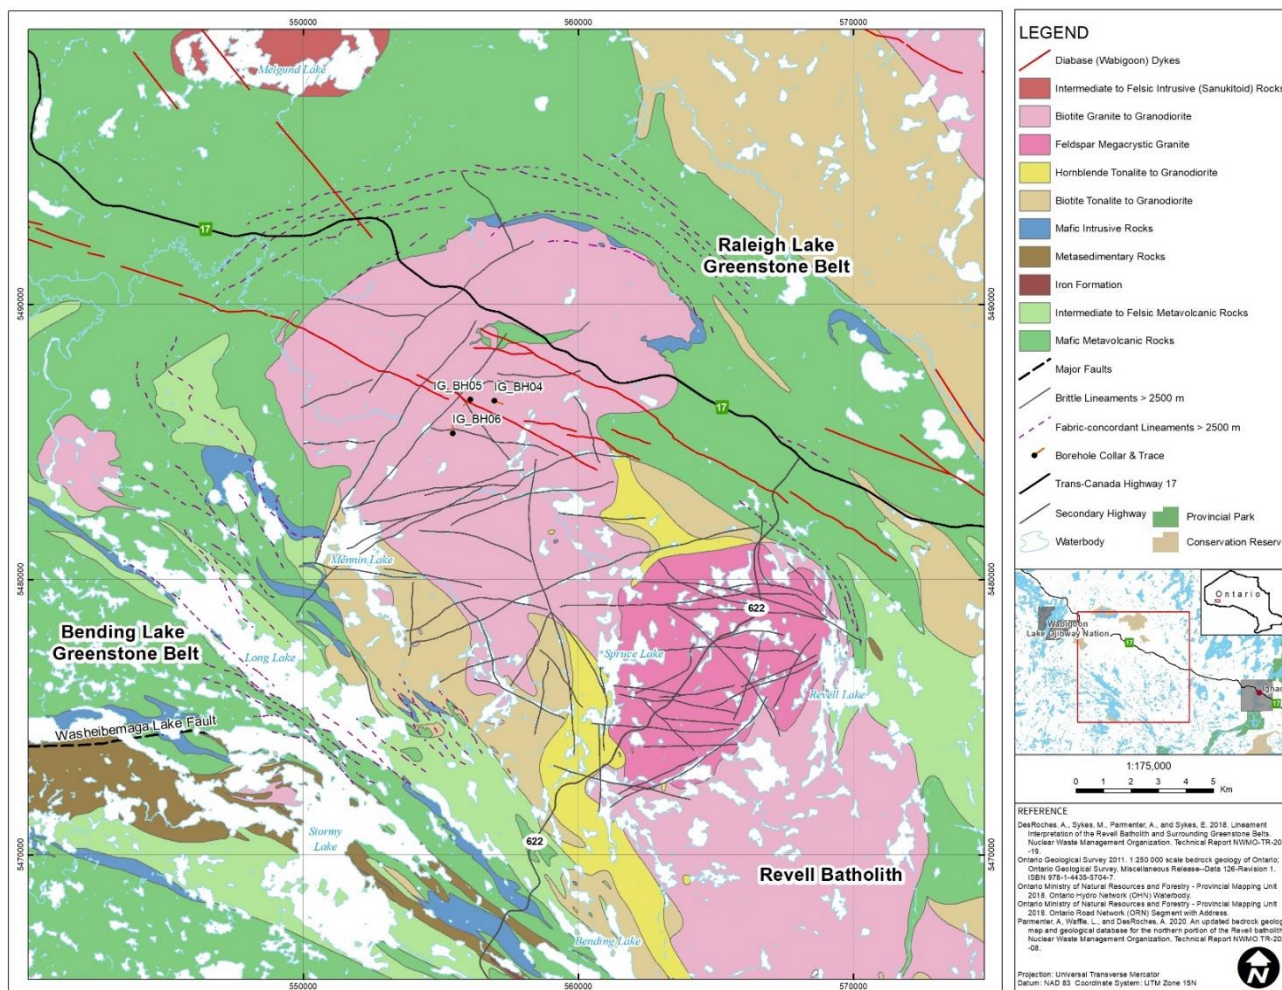

Figure 2: Geological setting and location of boreholes IG_BH04, IG_BH05 and IG_BH06 in the northern portion of the Revell batholith
The approximately 2.7-billion-year-old Revell batholith is located in the western part of the Wabigoon Sub-province of the Archean Superior Province. The batholith is roughly elliptical in shape trending northwest, is approximately 40 km in length, 15 km in width, and covers an area of approximately 455 km². Based on geophysical modelling, the batholith is approximately 2 km to 3 km thick through the center of the northern portion (SGL 2015). The batholith is surrounded by supracrustal rocks of the Raleigh Lake (to the north and east) and Bending Lake (to the southwest) greenstone belts (Figure 2).
Four main rock units are identified in the supracrustal rock group: mafic metavolcanic rocks, intermediate to felsic metavolcanic rocks, metasedimentary rocks, and mafic intrusive rocks (Figure 2). Sedimentation within the supracrustal rock assemblage was largely synvolcanic, although sediment deposition in the Bending Lake area may have continued past the volcanic period (Stone 2009; Stone 2010a; Stone 2010b). All supracrustal rocks are affected, to varying degrees, by penetrative brittle-ductile to ductile deformation under greenschist- to amphibolite-facies metamorphic conditions (Blackburn and Hinz 1996; Stone et al. 1998). In some locations, primary features, such as pillow basalt or bedding in sedimentary rocks are preserved, in other locations, primary relationships are completely masked by penetrative deformation. Uranium-lead (U-Pb) geochronological analysis of the supracrustal rocks produced ages that range between 2734.6 \pm 1.1 Ma and 2725 \pm 5 Ma (Stone et al. 2010). Three main suites of plutonic rock are recognized in the Revell batholith, including, from oldest to youngest: a
Biotite Tonalite to Granodiorite suite, a Hornblende Tonalite to Granodiorite suite, and a Biotite Granite to Granodiorite suite (Figure 2) Plutonic rocks of the Biotite Tonalite to Granodiorite suite occur along the southwestern and northeastern margins of the Revell batholith. The principal type of rock within this suite is a white to grey, medium-grained, variably massive to foliated or weakly gneissic, biotite tonalite to granodiorite. One sample of foliated and medium-grained biotite tonalite produced a U-Pb age of 2734.2 ± 0.8 Ma (Stone et al. 2010). The Hornblende Tonalite to Granodiorite suite occurs in two irregularly-shaped zones surrounding the central core of the Revell batholith. Rocks of the Hornblende Tonalite to Granodiorite suite range compositionally from tonalite through granodiorite to granite and also include significant proportions of quartz diorite and quartz monzodiorite. One sample of coarse-grained grey mesocratic hornblende tonalite produced a U-Pb age of 2732.3 ± 0.8 Ma (Stone et al. 2010). Rocks of the Biotite Granite to Granodiorite suite underlie most of the northern, central and southern portions of the Revell batholith. Rocks of this suite are typically coarse-grained, massive to weakly foliated, and white to pink in colour. The Biotite Granite to Granodiorite suite ranges compositionally from granite through granodiorite to tonalite. A distinct potassium (K)-Feldspar Megacrystic Granite phase of the Biotite Granite to Granodiorite suite occurs as an oval-shaped body in the central portion of the Revell batholith (Figure 2). One sample of coarse-grained, pink, massive K-feldspar megacrystic biotite granite produced a U-Pb age of 2694.0 ± 0.9 Ma (Stone et al. 2010).
West-northwest trending mafic dykes interpreted from aeromagnetic data extend across the northern portion of the Revell batholith and into the surrounding greenstone belts. One mafic dyke occurrence, located to the northwest of IG_BH01, is approximately 15-20 m wide (Figure 2). All of these mafic dykes have a similar character and are interpreted to be part of the Wabigoon dyke swarm. One sample from the same Wabigoon swarm produced a U-Pb age of 1887 ± 13 Ma (Stone et al. 2010), indicating that these mafic dykes are Proterozoic in age. It is assumed based on surface measurements that these mafic dykes are sub-vertical (Golder and PGW 2017).
Regional observations from mapping have indicated that structural features are widely spaced (typical 30 to 500 cm spacing range) and dominantly comprised of sub-vertical joints with two dominant orientations, northeast and northwest trending (Golder and PGW 2017). Interpreted bedrock lineaments generally follow these same dominant orientations in the northern portion of the Revell batholith (Figure 2) (DesRoches et al. 2018). Minor sub-horizontal joints have been observed with minimal alteration, suggesting they are younger and perhaps related to glacial unloading. One mapped regional-scale fault, the Washeibemaga Lake fault, trends east and is
located to the west of the Revell batholith (Figure 2). Ductile lineaments, also shown on Figure 2, follow the trend of foliation mapped in the surrounding greenstone belts. Additional details of the lithological units and structures found at surface within the investigation area are reported in Golder and PGW (2017).